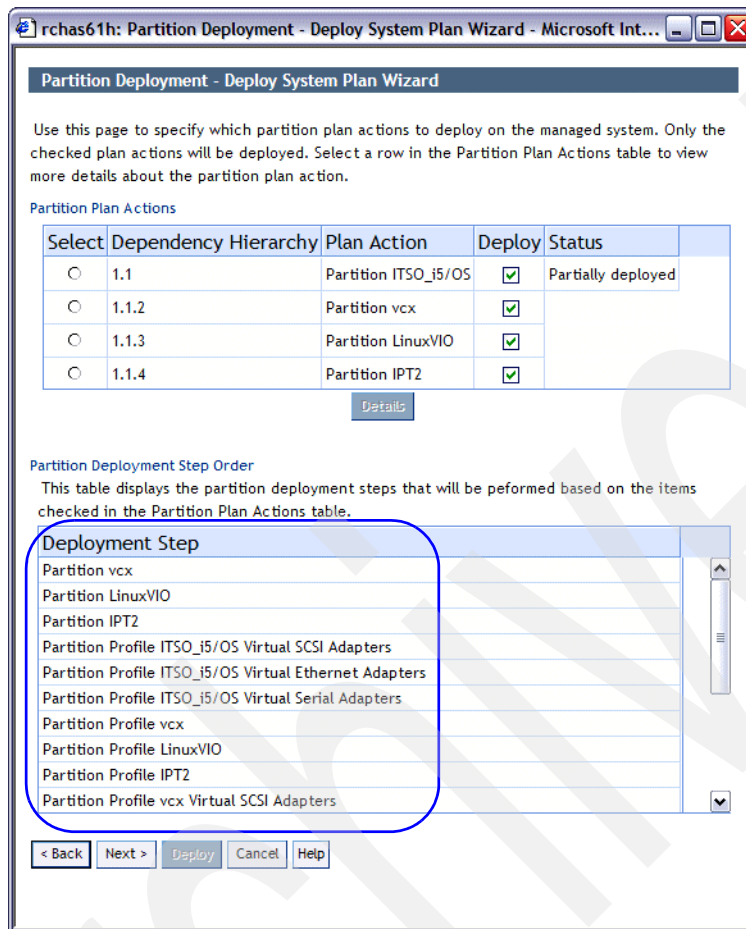

Figure 3-29 List of the deployment steps
- b. The second portion contains the detailed list of all the steps the HMC will perform to deploy the plan, as shown in Figure 3-29. You can scroll down and up to review all the steps.